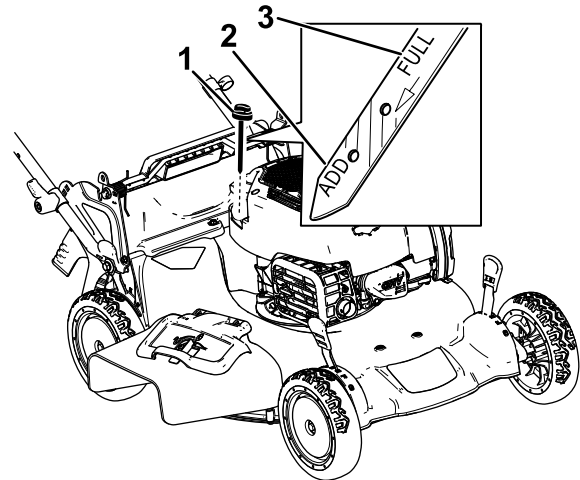

Figure 6
- Remove the dipstick by rotating the cap counterclockwise and pulling it out (Figure 6).
- Read the oil level on the dipstick (Figure 6).